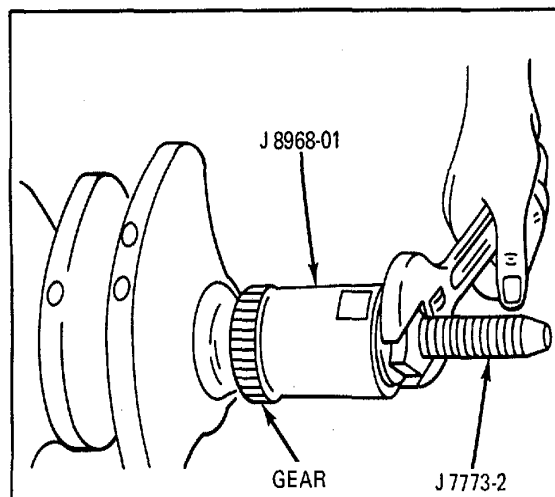

Figure 8. Installing Oil Pump Drive Gear
2. Position the drive-gear installer J 8968-01 over the end of the crankshaft and against the drive gear and force the gear in place as shown in Fig. 8. When the end of the bore in the tool contacts the end of the crankshaft, the drive gear is correctly positioned (2.680 inches from the front end of the crankshaft to the forward face of the gear).